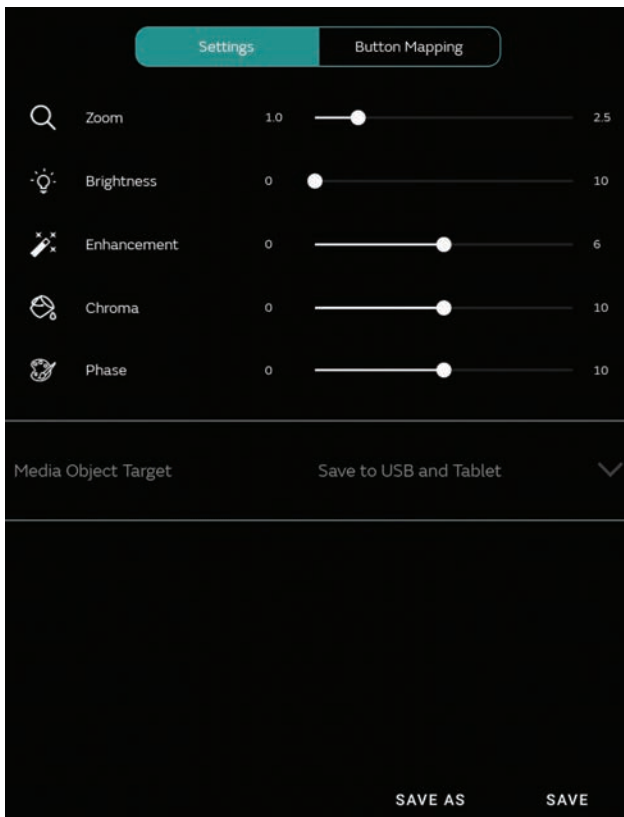

Figure 24. Adjust new Camera Setup settings
6. Adjust the control unit settings (Figure 24) to the individual user preference. Refer to section Adjust Control Unit Settings section in this document